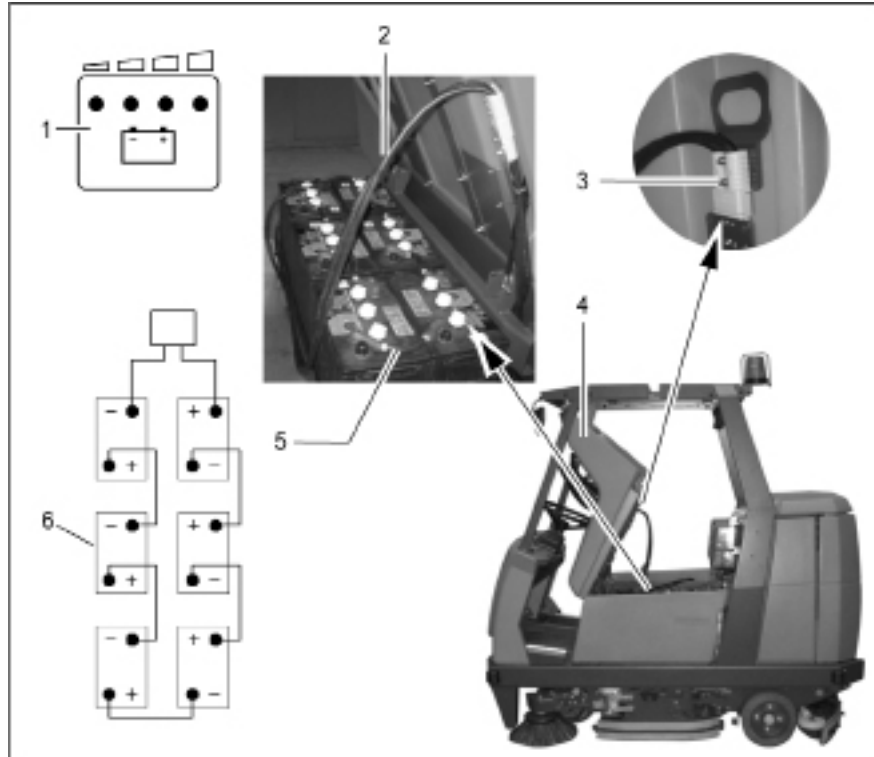

Fig 23
The seat console (Fig. 23/4) must be open during the battery charging process to prevent the development of explosive oxyhydrogen!
We recommend charging the battery when at least one dot of the battery indicator has gone out after operating the vehicle. The indicator (Fig. 23/1) also indicates the charge status of the batteries during the charging process.
- Connect the battery plug (Fig. 23/3) to the battery charger supplied.